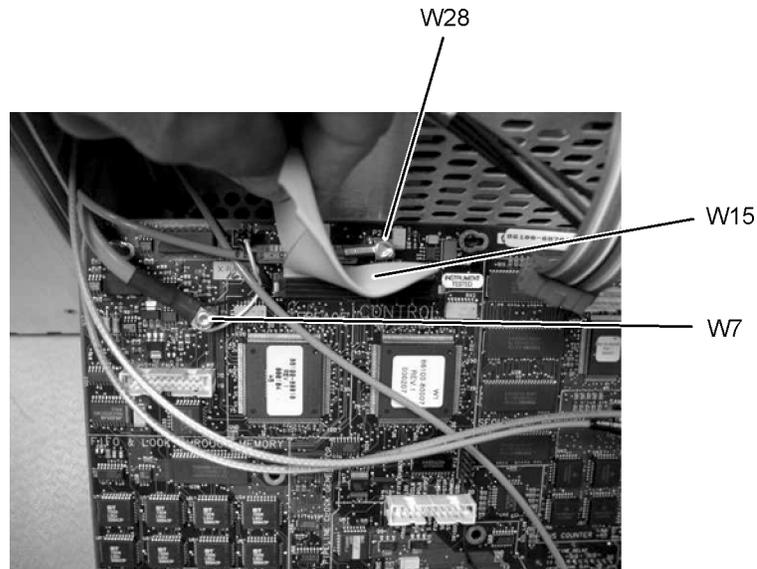
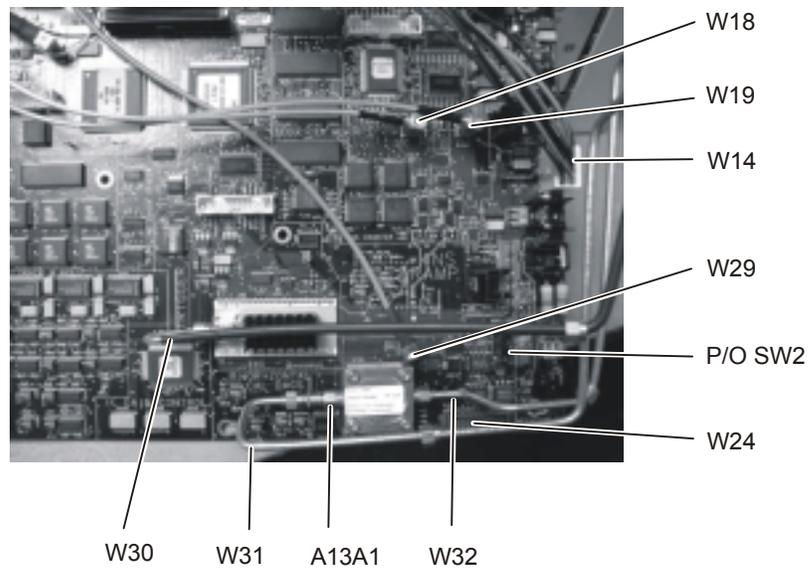

Figure 4-54. W28, W7, and W15 Cables from the A13 Acquisition Board
Figure 4-55. Cables from the A13 Acquisition Board (option 001)
- 8 Refer to Figure 4-54 and Figure 4-55 for cable connections.